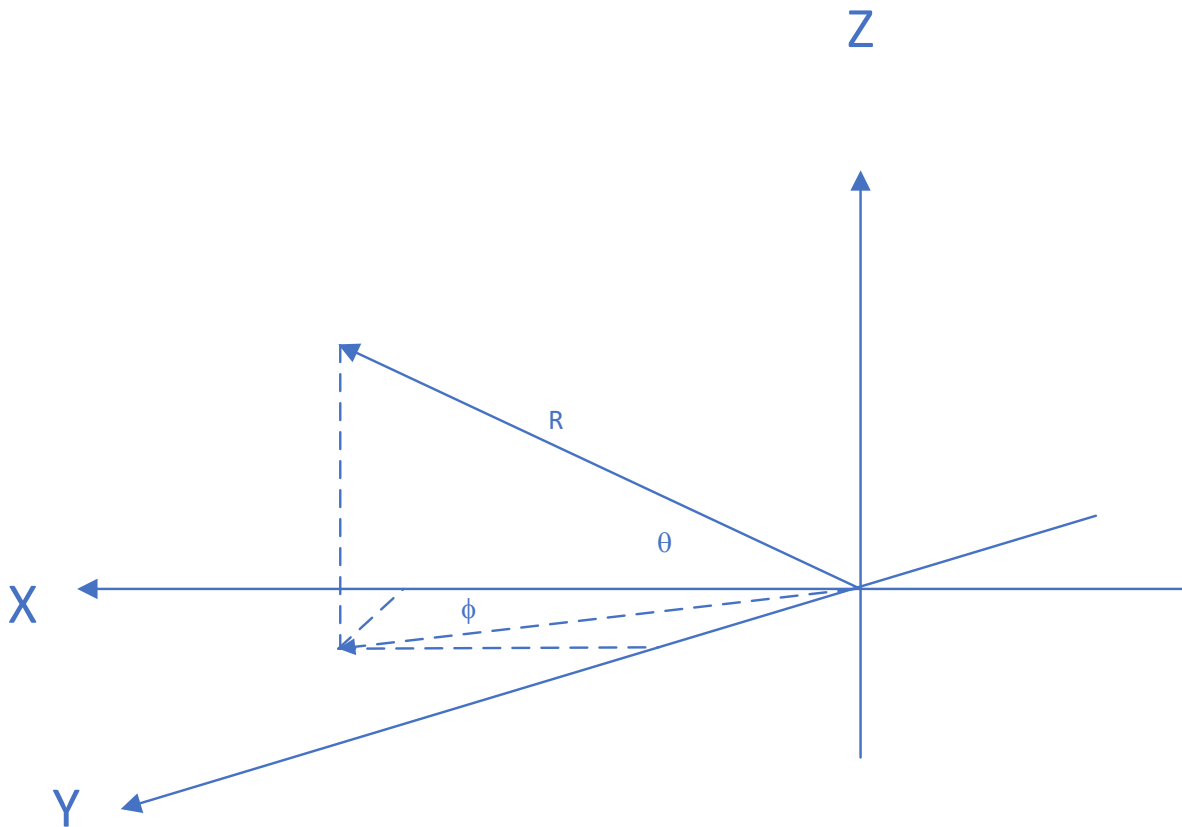

Figure 5-1 Vector component definition
The SOURCE:VECTOR commands allow the user to generate one of three different periodic vector functions: Sine, Square or Ramp. A vector is defined by three parameters (see Fig. 5-1): Magnitude (R), the angle between the vector projected onto the XY plane and the X axis (ϕ) and the angle between the vector and the XY plane (θ). For a Sine and Square function, the variable that is time dependent can be specified. For the Ramp function, only the amplitude is time dependent.
Sets or gets the value of ϕ (see Fig. 5-1).
Sets or get the value of θ (see Fig. 5-1).
Parameters: {R|PHI|THETA} See Fig. 5-1 for an definition of the parameters